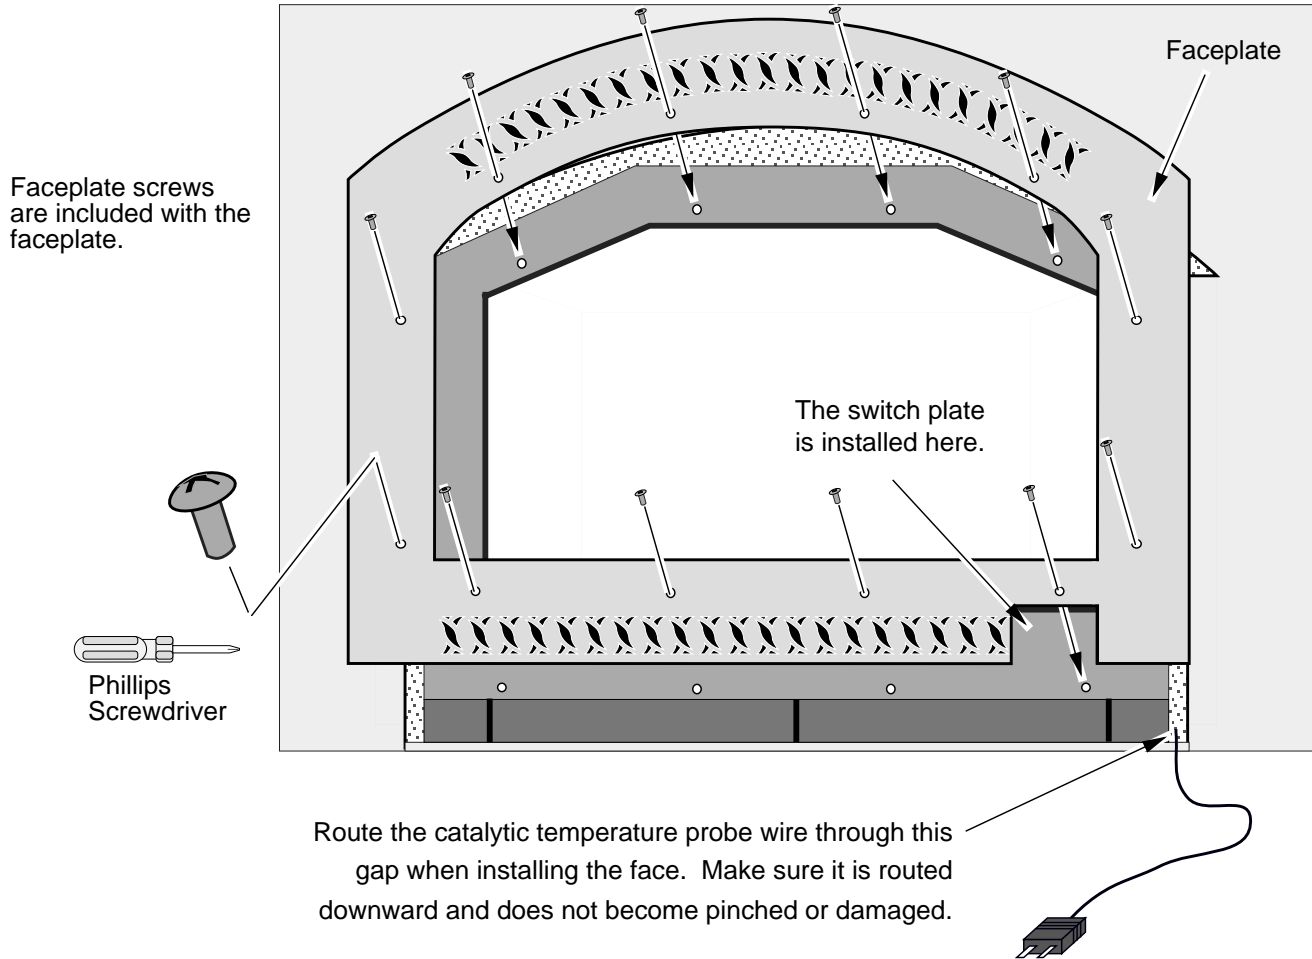

Figure 32
- The faceplate is packaged with faceplate attachment screws. Use a phillips screwdriver to attach the faceplate (see Figure 32).